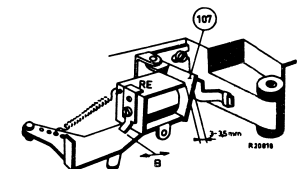

Fig. 50
- The distance between the relay coil and the lip on bracket 107 should be 3-3.5 mm (in the rest position) see fig. 50. This can be adjusted by bending the lip B, see fig. 50.